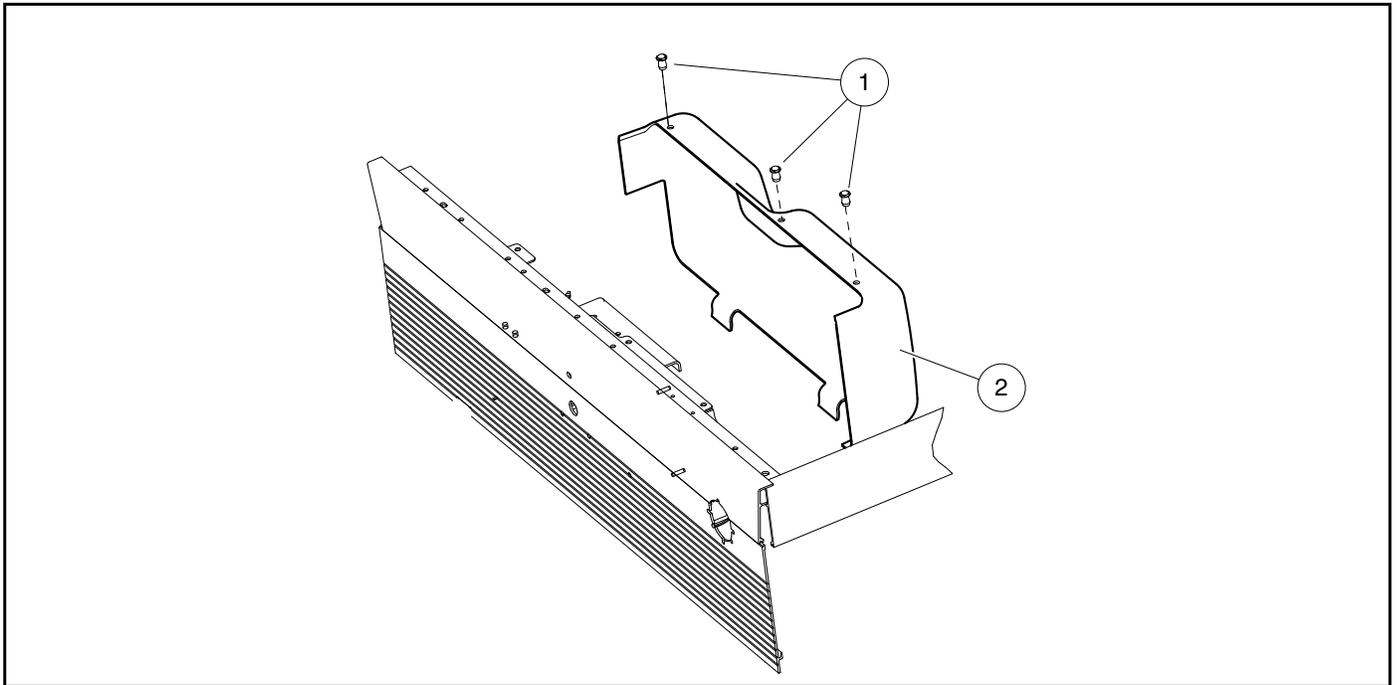

Figure 24-6 Speed Controller Cover
1. Use a flathead screwdriver to pry up the center pieces of the 3 push rivets (1) and remove the rivets (**Figure 24-6, Page 24-9**).
2. Pull the speed controller cover (2) down and away from the component mounting plate.
1. Place the curved edges on the bottom of the speed controller cover (2) into the slots on the component mounting plate.
3. Install the three push rivets (1) (**Figure 24-6, Page 24-9**).
9. Install a wire tie to tightly secure the speed controller wires to the component mounting plate (**Figure 24-6, Page 24-9**).